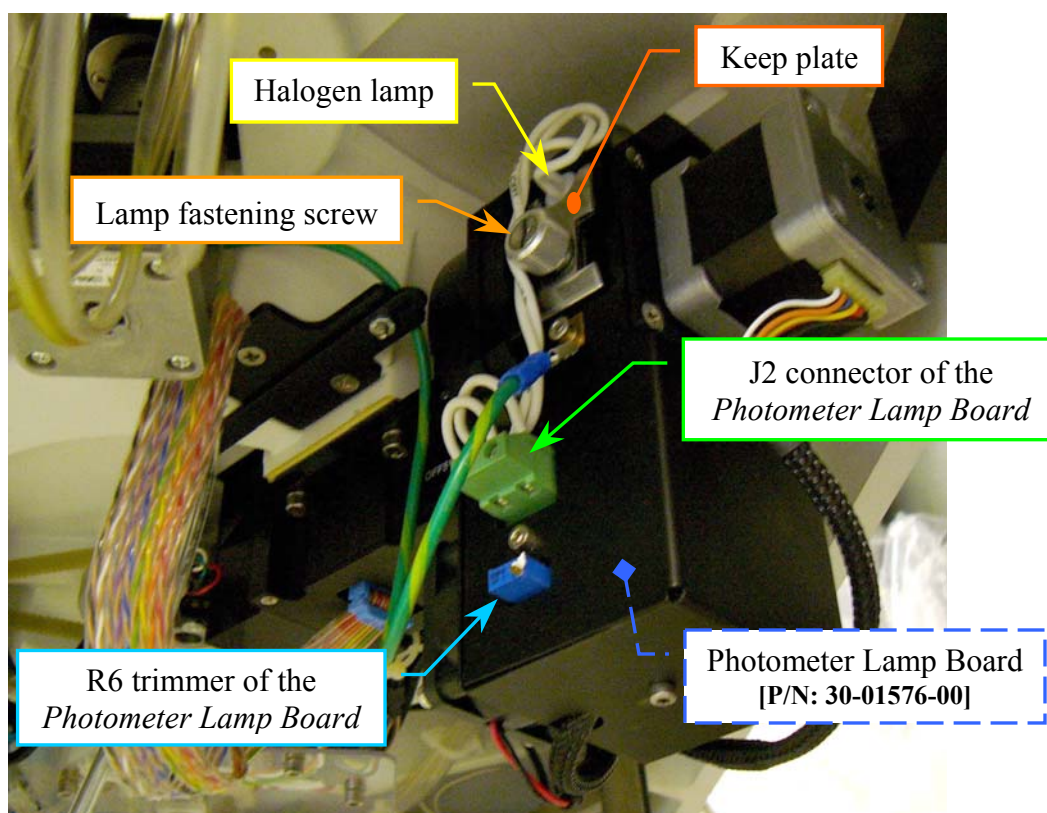

Fig. 52 – Photometer [P/N: 15-02448-00]
7. Make sure that the voltage on the J2 connector of the "Photometer Lamp Board" (**Fig. 52**) is equal to **5.8 Volts $\pm$ 0.1** . If it not be so, turn the R6 trimmer (**Fig. 52**) for adjusting the voltage.
3. Unscrew the two screws of the J2 connector of the “Photometer Halogen Lamp” (**Fig. 52**) and take out the two lamp wires from the connector.
4. Unscrew the lamp fastening screw (**Fig. 52**) and remove the lamp keep plate (**Fig. 52**) from the Photometer.